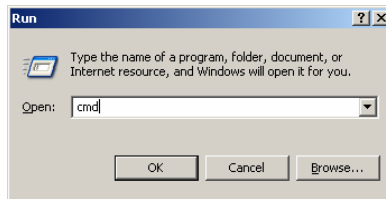

Figure 1-219. Run ... Window
- b. The "Run" popup is displayed (Figure 1-219). Type in **cmd** and click on **OK**.